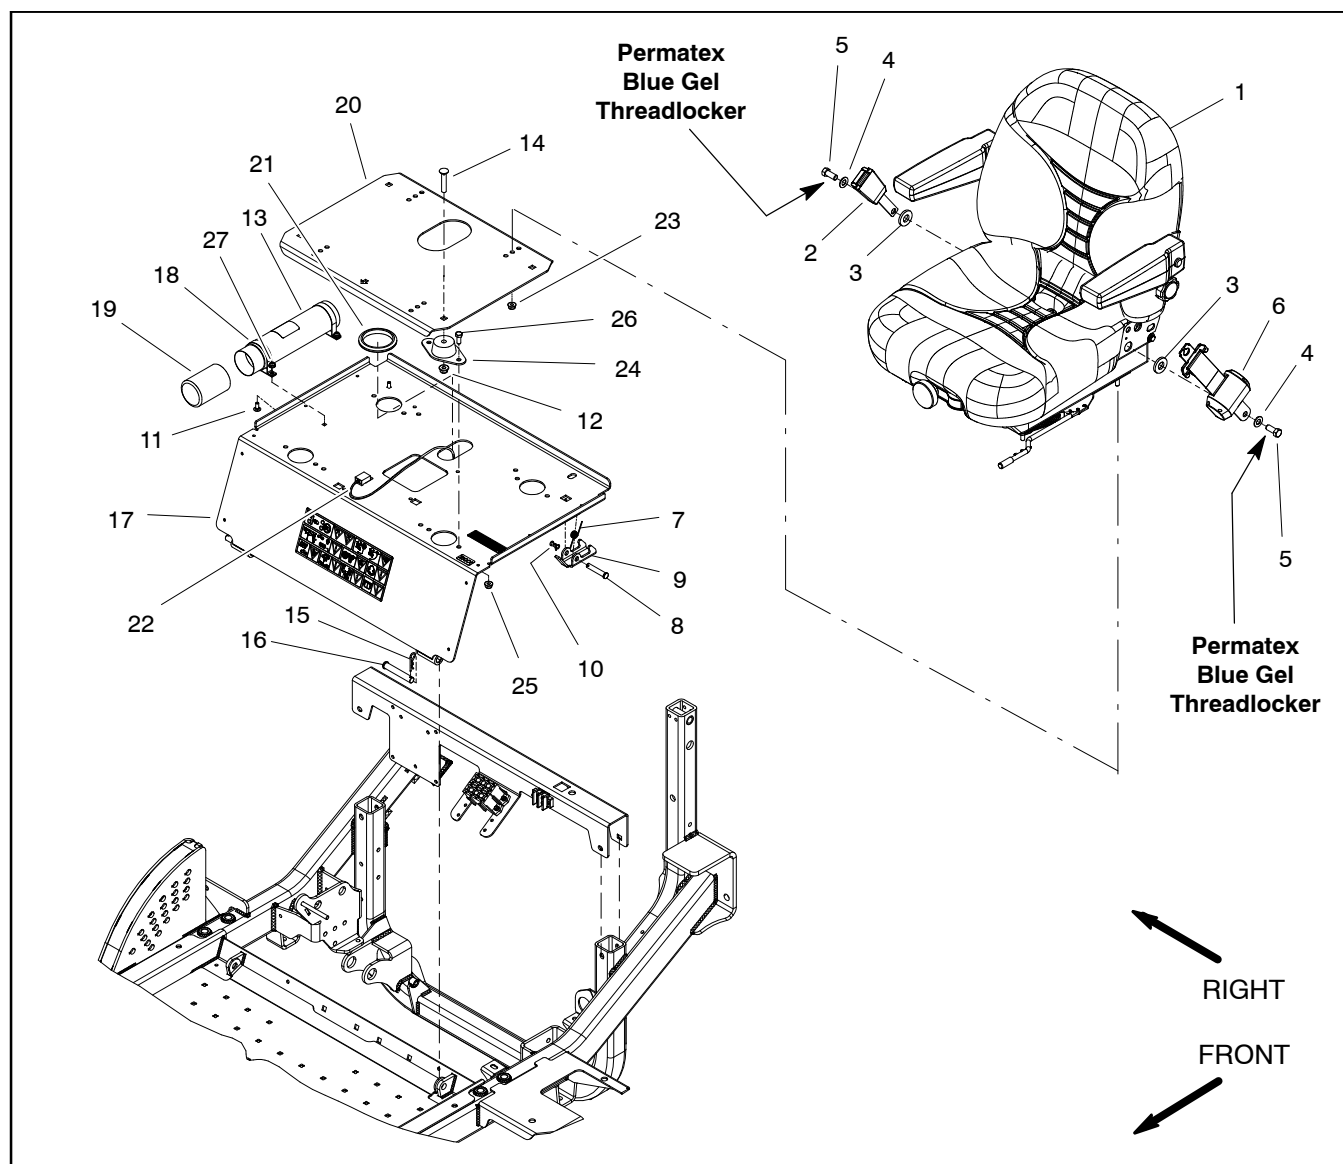
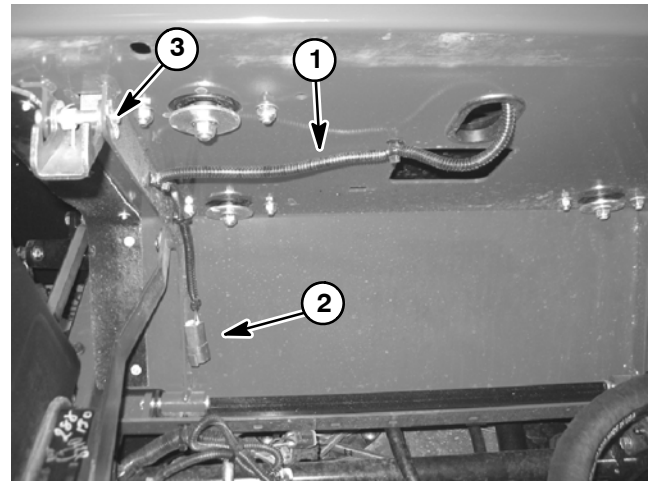

Figure 52
Figure 53
### Removal (Fig. 52)
3. Disconnect machine wire harness electrical connector from the seat wire harness connector (Fig. 53). Note routing of seat wire harness for assembly purposes.
4. Support seat and upper seat plate (item 20) to prevent them from shifting during seat removal.
5. Remove four (4) carriage screws (item 14) and flange nuts (item 12) that secure seat and upper seat plate assembly to seat plate (item 17). Remove seat and upper seat plate assembly from machine.
6. Remove seat parts and seat plate (item 17) as necessary using Figure 52 as a guide.
### Installation (Fig. 52)
1. Install all removed seat parts using Figure 52 as a guide.
- A. If seatbelt (item 6) or seatbelt latch (item 2) were removed from seat assembly, apply Permatex Blue Gel Threadlocker (or equivalent) to threads of cap screw (item 5) before installing screw.
2. If seat plate (item 17) was removed, secure seat plate to machine using Figure 52 as a guide.
3. Position seat and upper seat plate assembly to seat plate. Secure assembly with four (4) carriage screws (item 14) and flange nuts (item 12).
4. Connect wire harness electrical connector to the seat switch harness (Fig. 53).